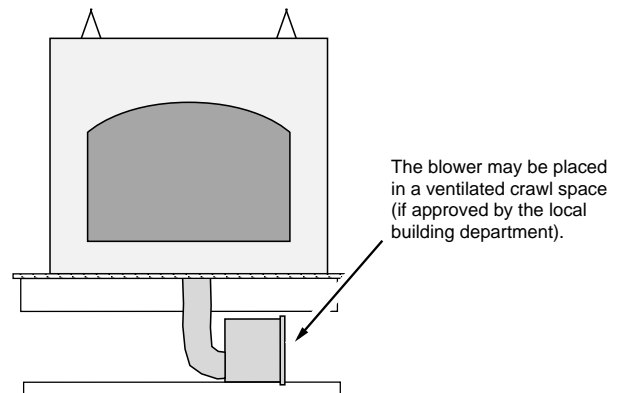

Figure 16
- The blower may be installed to draw air from a crawl space or attic if approved by local building codes (see Figure 16). **NOTE:** certain codes require a fire curtain in these cases.